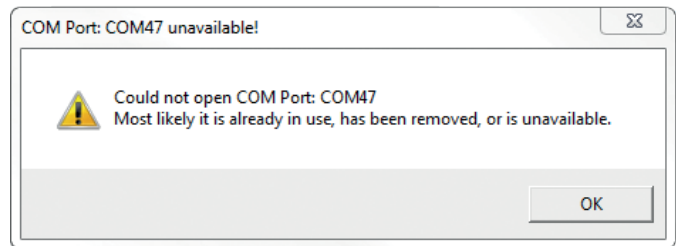
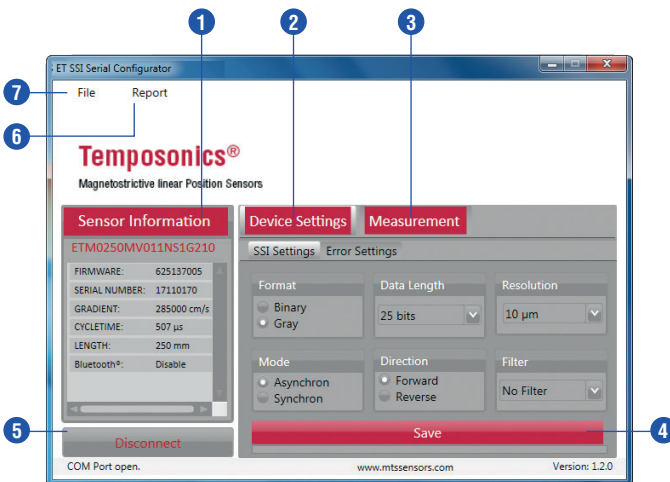

Fig. 27: Error message COM Port is not available
Fig. 29: Temposonics ET SSI Serial Configurator, SSI Settings
After starting the program MTS ET SSI Serial Configurator the software connects to the last selected COM Port and the user interface opens (Fig. 29). If the COM Port is not available an error message appears (Fig. 27).
The application will automatically restart and the user interface opens (Fig. 29).
- 1 **Sensor Information** contains the invariable sensor parameters, which were read in automatically when the sensor is connected (Fig. 29).
- 2 In the **Device Settings** menu the configurable parameters (SSI Settings, Error Settings) of the sensor can be set (Fig. 29).
- 3 The **Measurement** menu shows the current position of the magnet (Fig. 29).
- 4 The **Save** button saves any parameter changes you have made. After that the software restarts for the changes to take effect. The function **Measurement** 3 will then be available again (Fig. 29).
- 5 The button **Disconnect** breaks the connection to the COM Port and closes the software (Fig. 29).
- 6 By clicking **Report** a report document is generated to provide sensor information (Fig. 29).
- 7 The **File** menu allows the following settings (Fig. 29):
SSI Settings (Fig. 29)